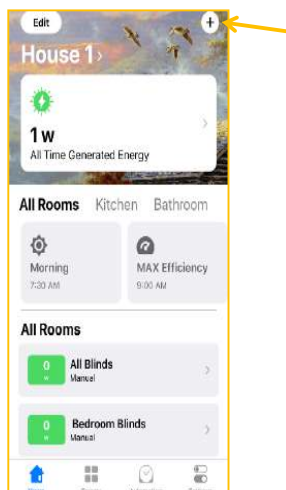
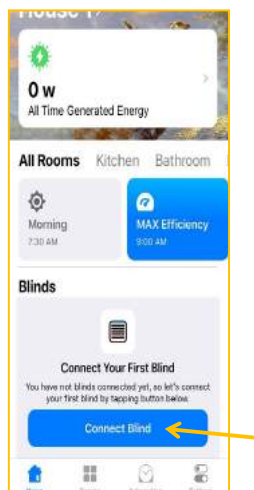

Figure 13
Figure 14
10.4.1. Click **+** in the top right corner to start (Fig. 13) and select **Blinds** tab or click **connect blinds** in the homepage (Fig. 14).